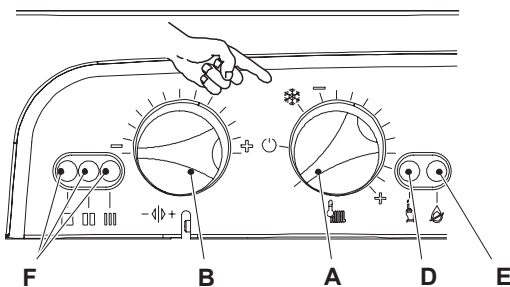

Figure 8.20
- Turn the boiler ON positioning the function selector knob A as indicated in Figure 8.20 and ensure that the timer selector switch and room thermostat, if fitted, are set to "heat demand".